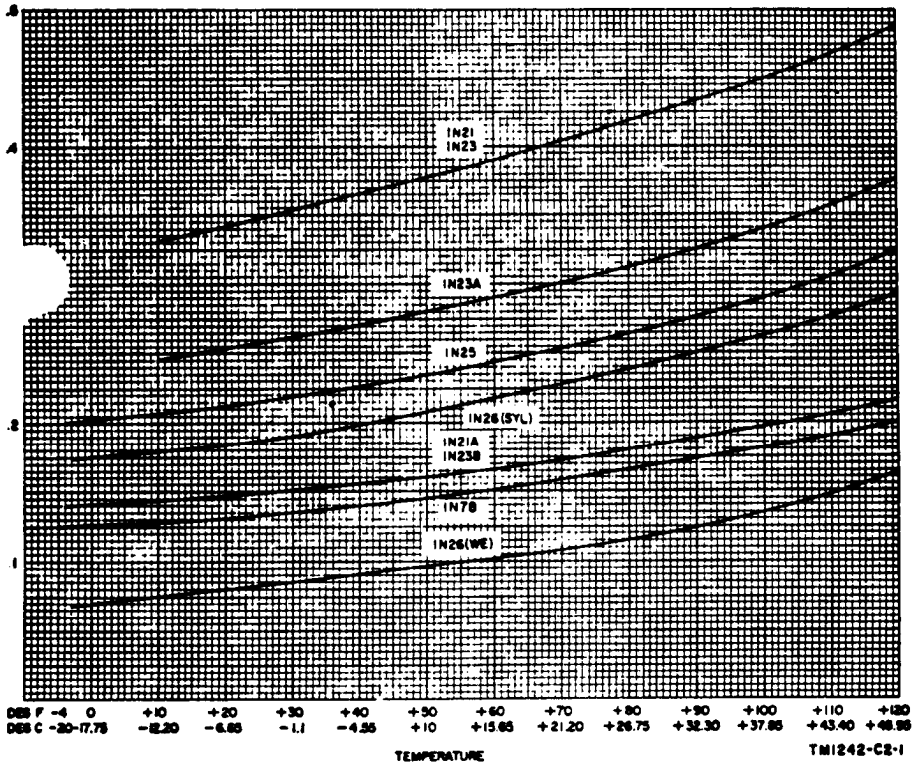

Figure 13. (Superseded) Reverse current versus temperature chart, showing allowable crystal limits of reverse current through the crystal
*Page 25*. Delete figure 13 (as changed by C 2, 22 Jan 1957) and substitute: